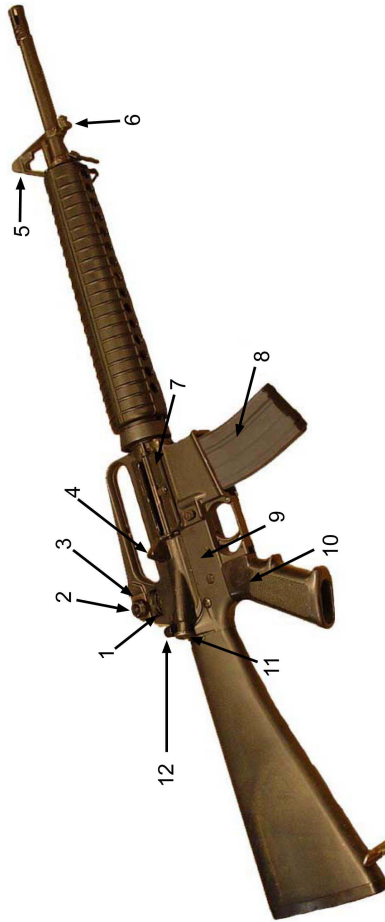

Figure 2-1. M16A2 - Right View
- a. Right View. Refer to Figure 2-1.
- (1) Elevation Knob. The elevation knob allows the operator to adjust sights for range changes.
- (2) Windage Knob. The windage knob allows the operator to adjust / correct for effects of wind.
- (3) Rear Sight Assembly. The rear sight assembly contains short range (0-200m) and long range (300+m) apertures and adjustment controls.
- (4) Brass Deflector. The brass deflector prevents ejected cartridge cases from striking the operator.
- (5) Front Sight Post. The front sight post allows the operator to adjust the strike of the bullet up and down.
- (6) Bayonet Lug. The bayonet lug allows attachment of a bayonet to the weapon.
- (7) Ejection Port Cover. The ejection port cover closes over ejection port to prevent sand or dust from entering the chamber. Cover should remain closed when not firing the weapon.
- (8) Magazine. The magazine contains up to 30 rounds of 5.56mm ammunition.
- (9) Magazine Release Button. The magazine release button allows the operator to release the magazine and remove it from weapon.